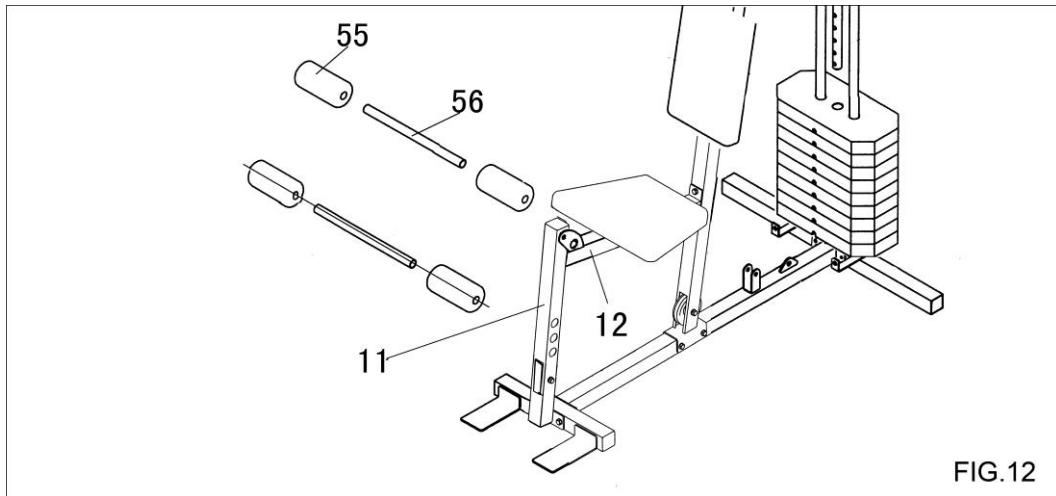

FIG.12
FIG.12: Insert the Foot Roll Tube (56) into holes of the Leg Extension Arm (11) and Seat Tube (12), insert Foam (55) onto the Foot Roll Tube (13), as shown above.